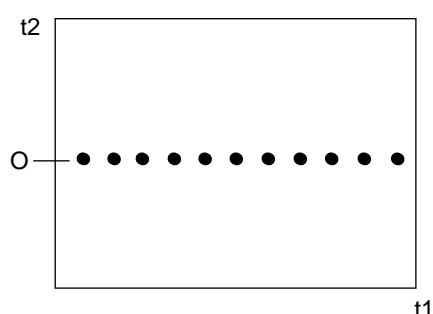

Figure 25. Centered Echoes
- e. If the echo train is offset with respect to $t_2=0$, adjust the `tep` parameter so that the echoes are centered according to t_2 , as shown in Figure 25. (Note that `tep` corresponds to a delay in μs . Usually, `tep` is set to about $0 \mu\text{s}$ to $50 \mu\text{s}$.)